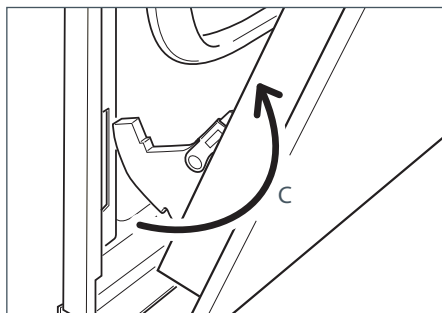

Fig.48e
- 5 Withdraw the hinge hooks from their location following arrow "C" (Fig. 48e).